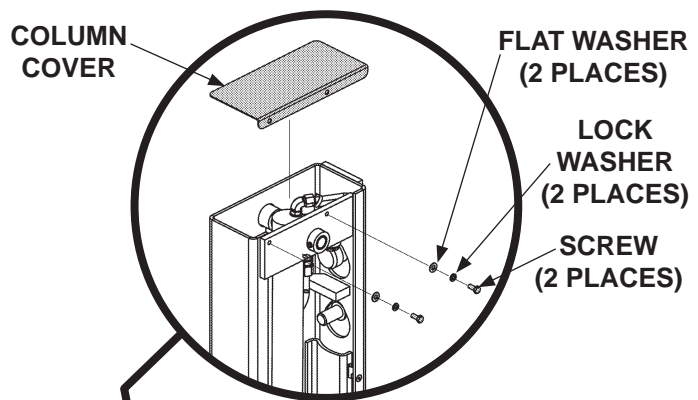

FIG. 22-1A
2. Remove column cover (**FIG. 22-1A**). Then, put empty 3 gallon container under column for hydraulic fluid.